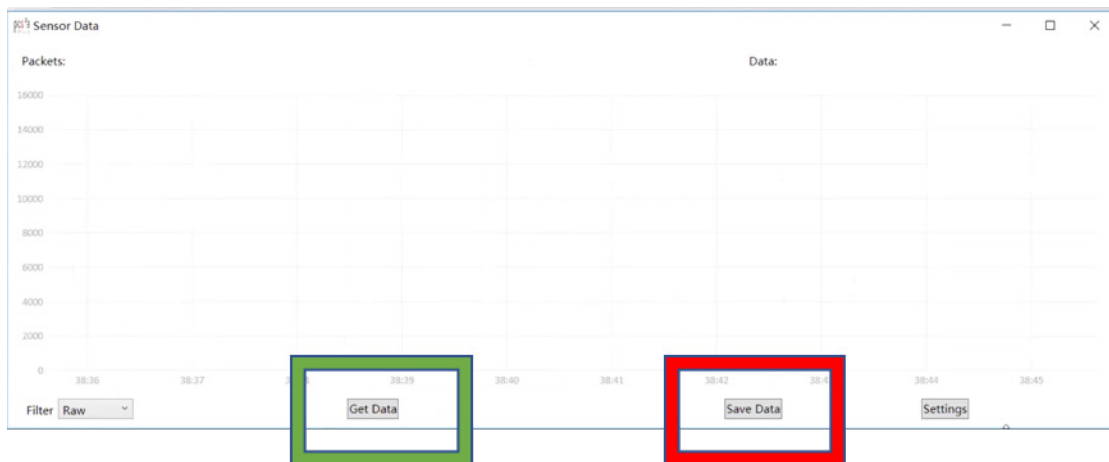

Figure 4
- A sensor data graph with time tracked on the x-axis and air flow on the y-axis will appear (Figure 4)